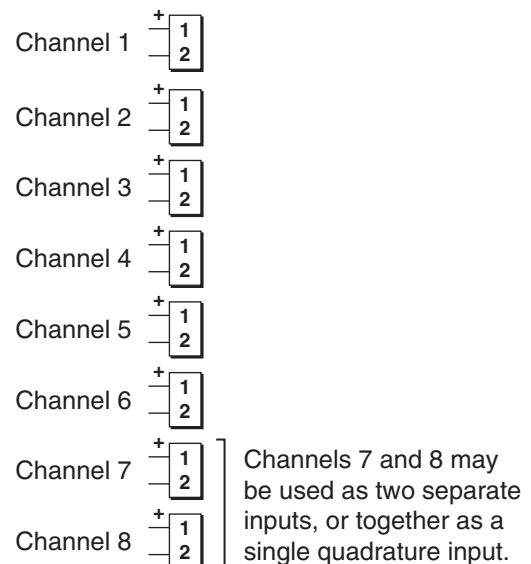

Fig 3 Input terminals
3. Connect field wiring to each of the eight pairs of removable input terminals shown in Fig 3. Each input is a separate intrinsically safe circuit and field wiring should comply with segregation requirements specified in IEC/EN 60079-14. If a multicore cable is used for the inputs, it should have Type A or B construction as specified in Clause 16.2.2.7 of IEC/EN 60079-14. Wiring should be supported to avoid damaging the module's terminals.